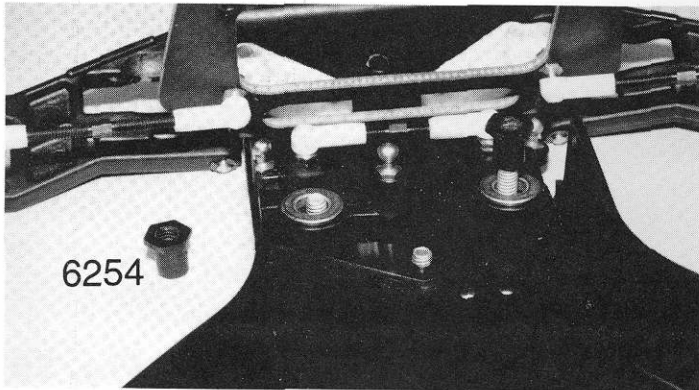

Fig. 30
□ **Fig. 30** (1) Install the #6254 bell crank steering assembly loosely over the two aluminum screws that are holding the nose plate to the chassis. (2) Next, thread the two #6254 nylon sleeve insert nuts (from fig. 26) onto the #6280 and #6281 aluminum screws. **Note:** The sleeve nut is not threaded, so you will be making your own threads as you go. (3) Now go ahead and thread the right hand sleeve nut onto the #6281 screw. Make sure it lines up and slides inside the bushings of the right hand bell crank steering arm as it goes down. (4) Then lightly tighten it against the nose